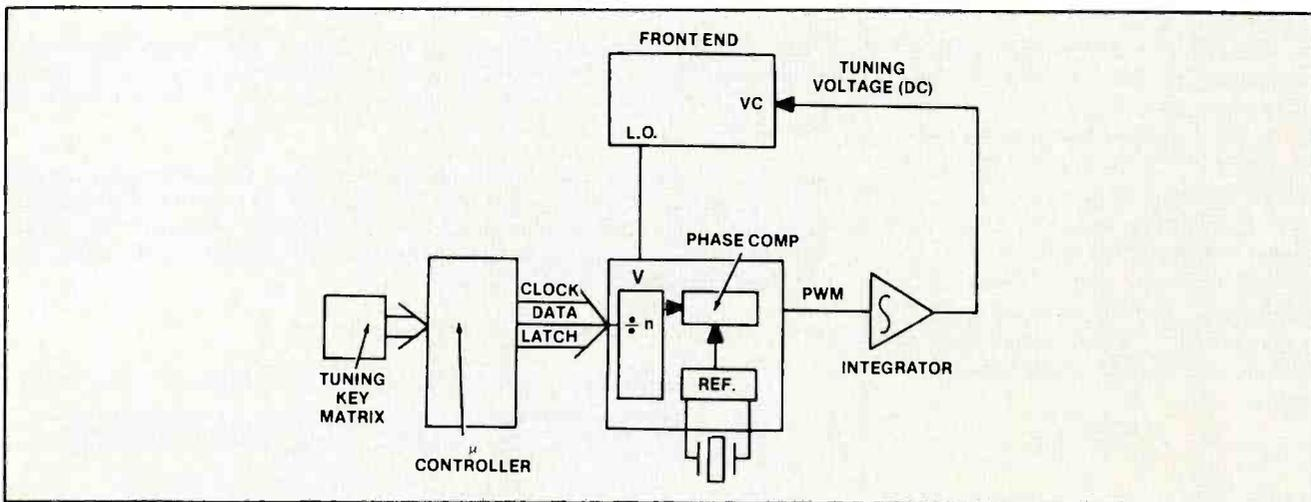

Figure 1. The PLL high-fidelity FM receiver employs a loop to both sample and alter the local oscillator, which is phase-compared to a stable crystal reference.
Figure 1 shows a generalized version of the PLL high-fidelity FM receiver. Of course, like almost everything else nowadays, it's a loop. A sample of the local oscillator (LO) is divided by an integer value chosen via the microcontroller. This frequency is then phase-compared to a stable crystal reference to produce a correction voltage that biases the varactor diodes to the proper capacitance for the LO frequency desired. Notice that the PLL both samples and alters the LO. That's what makes it a loop.
Figure 1 is a block diagram of the major subsystems in a typical microcomputer. When you encounter a problem with a computer, the first step in solving the problem is to examine the symptoms and ask yourself, "Given this symptom (or set of symptoms), what circuit is the most likely to be the cause?"
Figure 1. This block diagram of the major subsystems in a typical microcomputer gives you an idea of which circuits are most likely to be the problem behind a particular symptom.